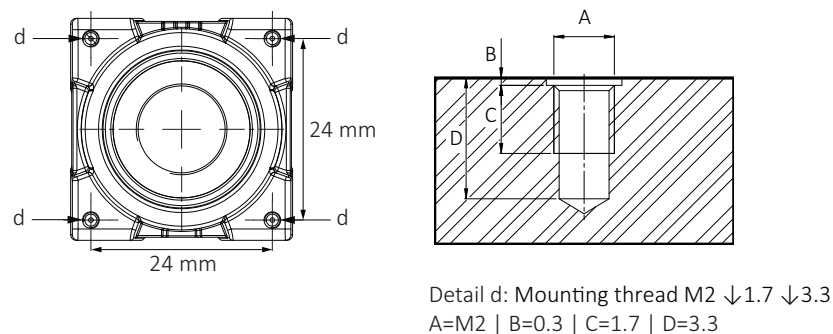

Figure 86: Camera front with mounting threads (d)
1. Mount the camera to the base using suitable M2 screws at 0.17 Nm maximum torque for a thread engagement (C) of 1.7 mm between screws and mounting threads, see Figure 86. For technical drawings, see Standard Alviium: Dimensions and mass on page 186.